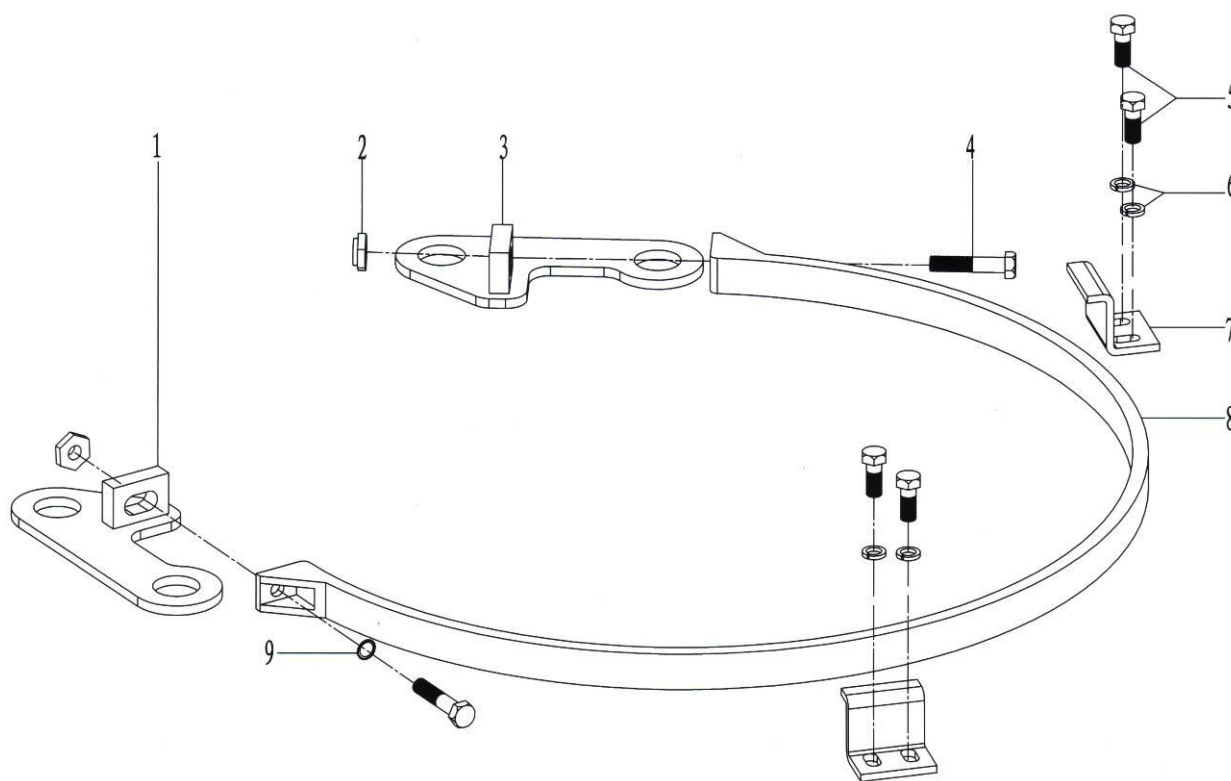

Fig. 18
7.1.11 Brake band assembly(Fig.18, Table.13)